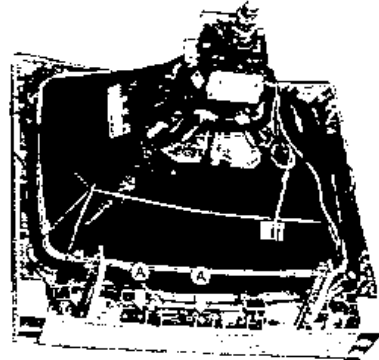

Figure 2-7 Remove the Control Board
1. Remove the two screws from the control board. Refer to the figure 2-7 (A).